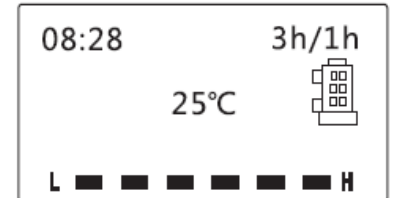

Figure 6-8
(1) Chlorine production: press "  " button, the "power indicator will be lit and the pool pump will be showed on the LCD display and start. Delay 5 seconds". Chlorine icon will be showed in LCD display and start to product chlorine. If the system is to Timer-2, the chlorine starts and stops upon based programmed time, shown as figure 6-8.